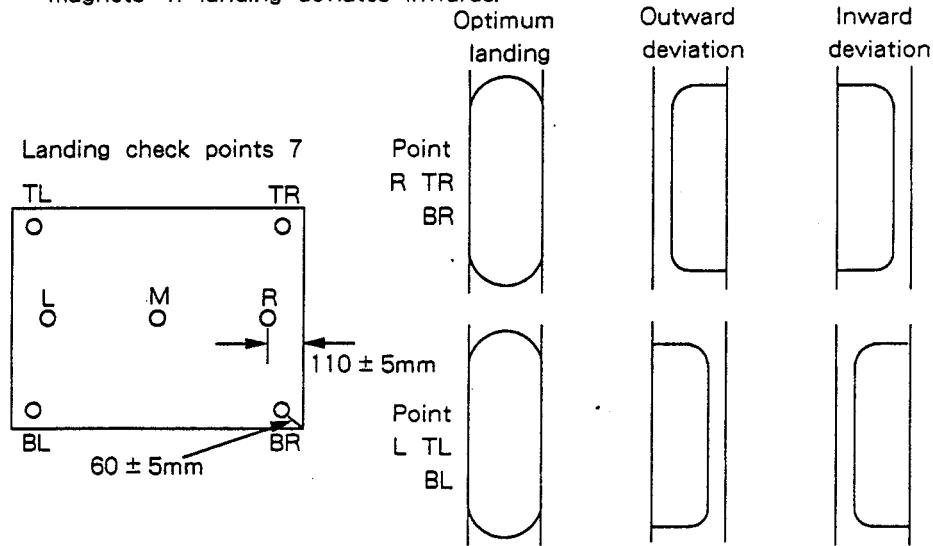

Fig. 14-3
* Fig. 14-3 shows correction when landing deviates outwards. Reverse the magnets if landing deviates inwards.